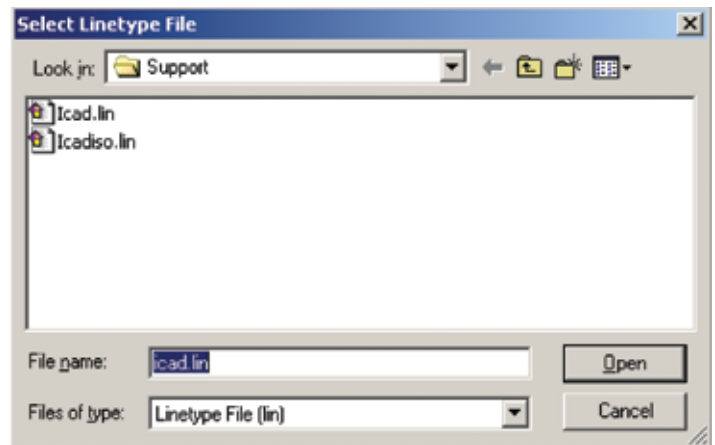

Figure 9.3
- The Select Linetype File dialog box appears. If necessary, change **Look In** to A+CAD’s Support folder. Select **icad.lin**, and then click **Open**. See figure 9.3.